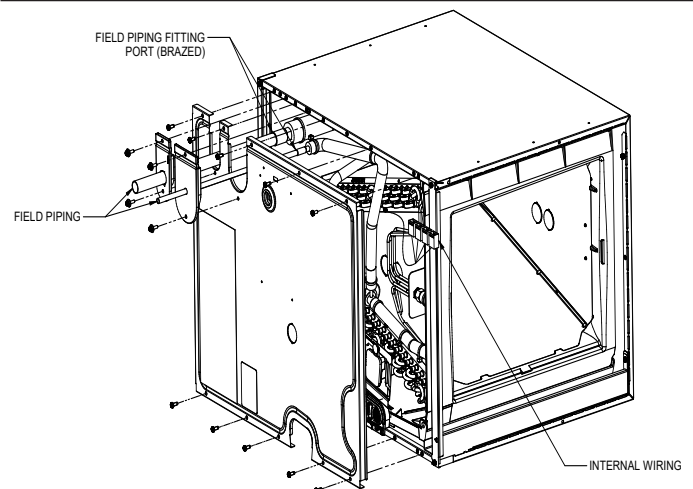

Figure 11
- Remove Front panel while cautiously guiding component wiring back through panel wireway unscrew two grommets both gas and liquid tubing, slide those grommets along field tubing. See Figure 11.